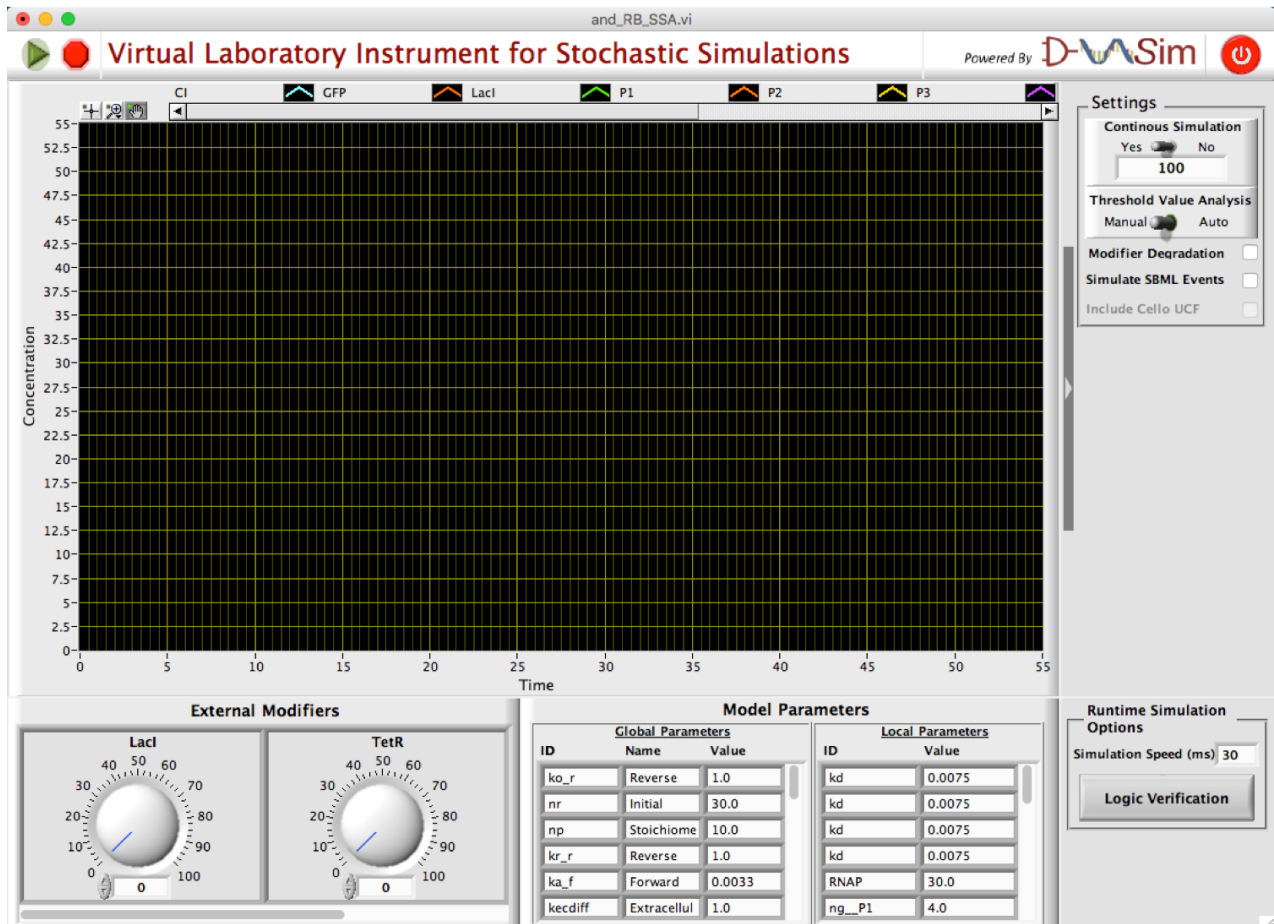

Figure 4. Virtual Instrument specifically for a genetic AND gate model.
Once the components of SBML model are analyzed, a virtual environment for the interactive simulation can be generated simply by clicking on any of the two options, **Generate SSA VI** or **Generate ODE VI** shown at the top right corner of a tool. Now click **Generate SSA VI** button to generate a virtual instrument (VI) for stochastic simulations of a genetic AND gate model. This will bring up a virtual instrument shown in Figure 4.
The virtual instrument (shown in Figure 4) looks similar to a physical instrument, which can be used to interact with the model by tuning the input concentrations with the control knobs and observing the effects graphically.
The control knobs for the input specie can be created by dropping down the **Options** menu and selecting **External Inputs** as shown in Figure 10(a). When **External Inputs** is selected, a pop-up window appeared as shown in Figure 10(b). The user can drag the specie name from left-hand box to right-hand box in order to create its control knob. In Figure 10(b), LacI and TetR specie are selected whose control knobs are created as shown in Figure 4. These control knobs can only be created when the simulation is not running.